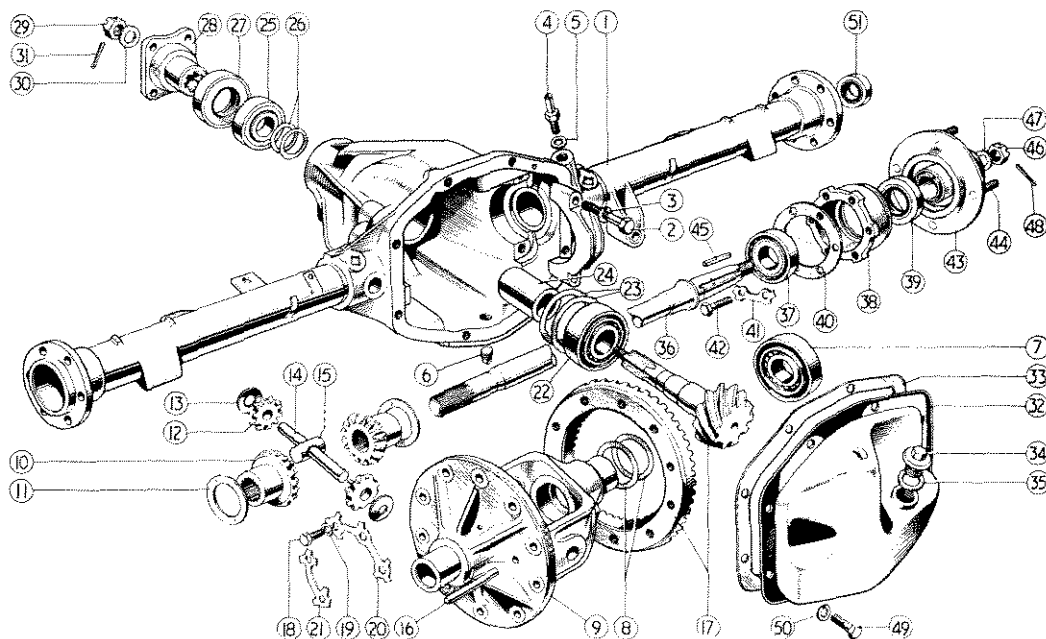

Fig. 13. Rear axle details
#### To Remove and Dismantle (Fig. 13)
## Key to Fig. 13
**Differential Unit—To Remove (Fig. 13)**